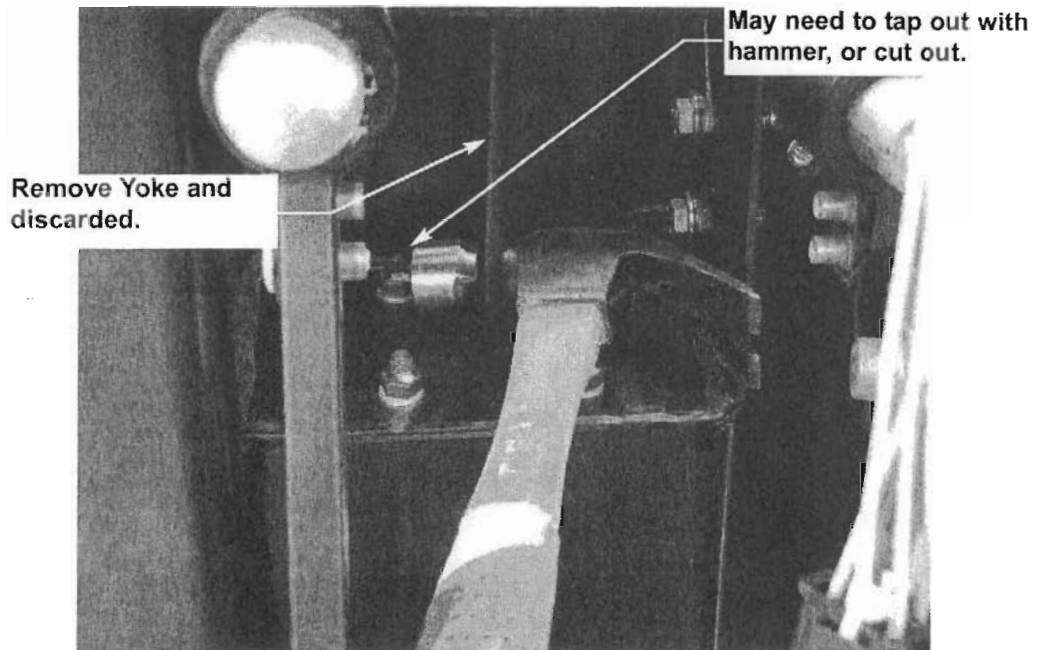

Figure 3
- b. Remove yoke. You may need to cut, or tap it out with a hammer. Figure 3